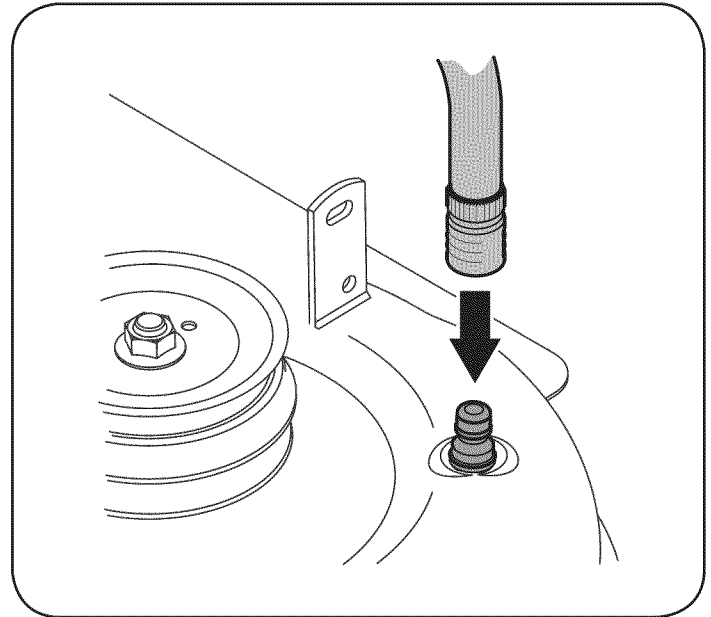

Figure 22
3. Attach the hose coupler to the water port on the deck surface. See Figure 22.